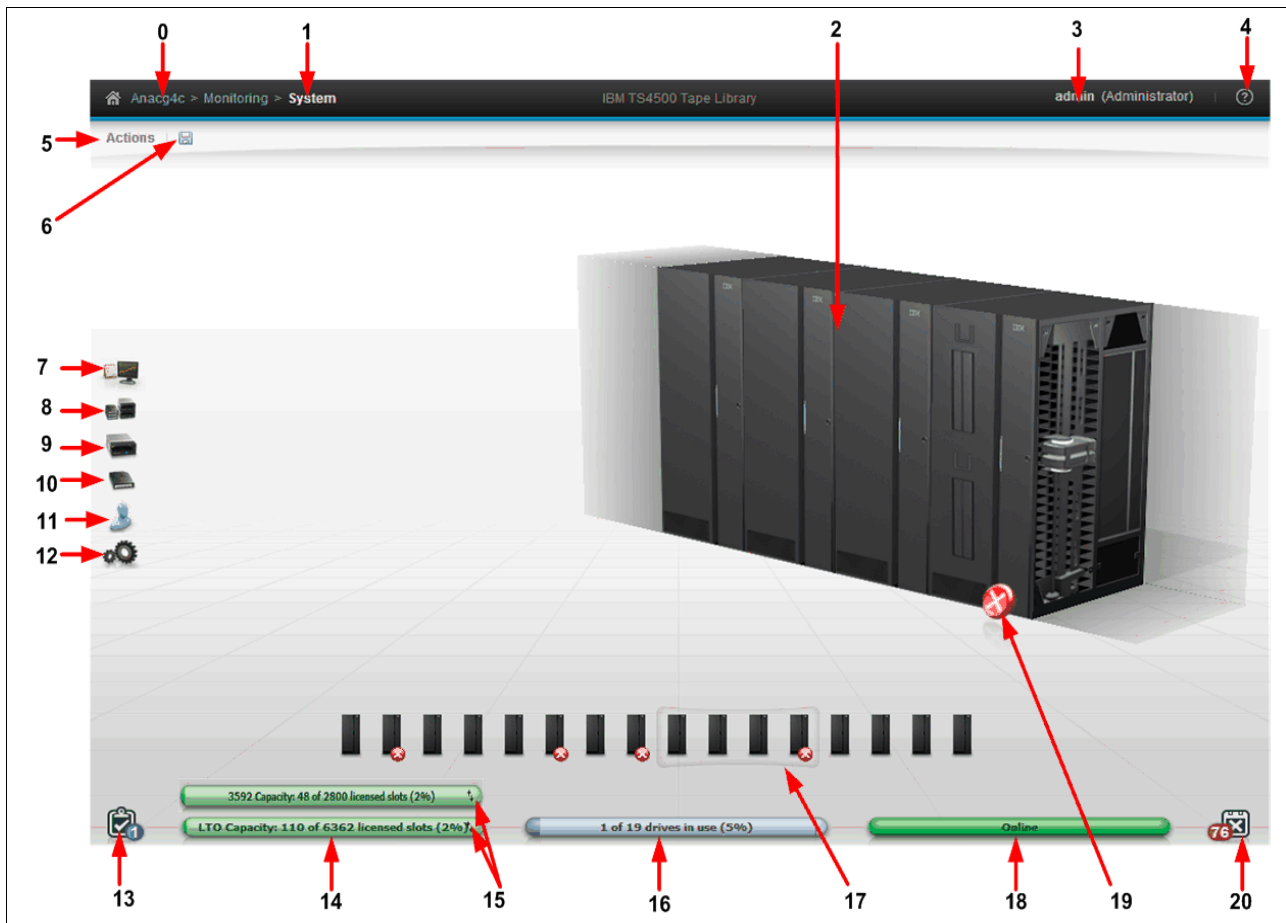

Figure 4-9 System summary display
After login the system summary window is shown, as in Figure 4-9.
For help and information about the Management Interface (MI) and the available functions, use the question mark (?) icon or **Help**, which is number 4 on Figure 4-9 on page 165.
Table 4-3 explains all of the fields that are shown on the window. The numbers refer to Figure 4-9 on page 165.